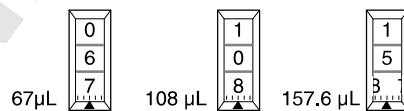

Figure 4: Example volumes
4. Turn the volume lock to the “lock” position (Fig. 2 above) to prevent changes to the volume setting. Some volumes for the 200 µL model are shown in Figure 4.